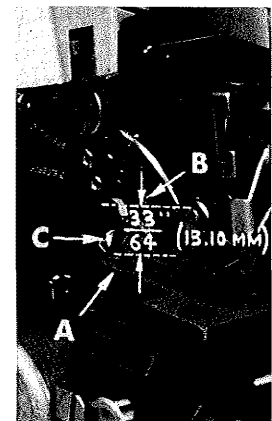

Fig. 3
With throat plate (A, Fig. 3) assembled in position, needle should center in the front end of needle slot. When needle is at high position, needle point should be set 33/64 inch (13.10 mm) above throat plate (Fig. 3) for Styles 39500 QJ, QL, RP and SJ; 1/2 inch (12.70 mm) for Styles 39500 QN and SR; and 15/32 inch
(11.91 mm) for Styles 39500 QV, QX, RU, SX, TG and TY. To align needle or set the height above the throat plate, move needle driving arm (B, Fig. 3) by loosening clamp screw (C). After needle has been properly set, tighten clamp screw and remove throat plate.